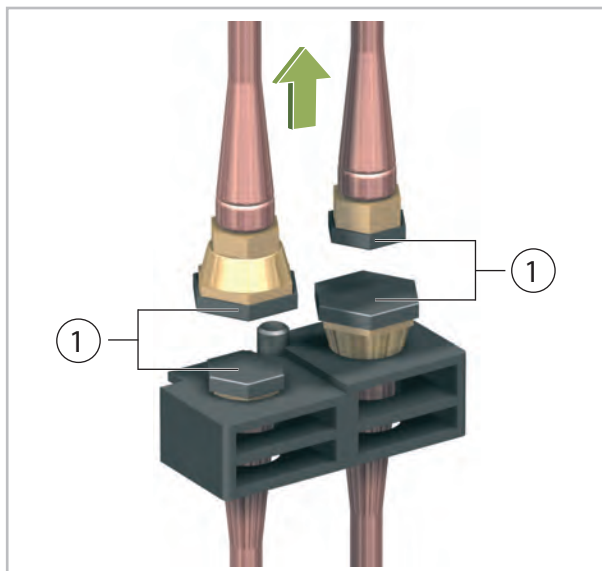

Fig. 16: Screw on protective caps
- 13. ➤ Screw the protective caps provided onto the 4 coupling halves (Fig. 16).